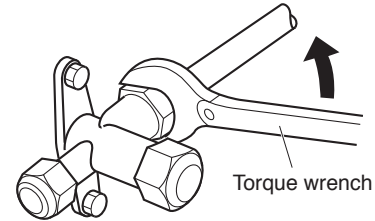

Fig. 35
- b) To fasten the flare nuts, apply specified torque as Table 8 and Fig. 35.